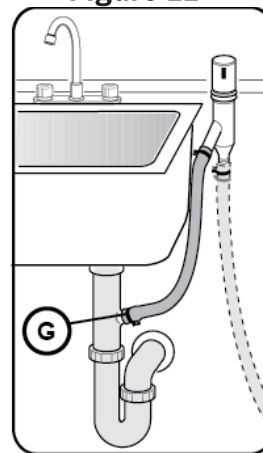

Figure 13
3. To the under sink dishwasher drain connection through an air gap, as shown in **Figure 13**.